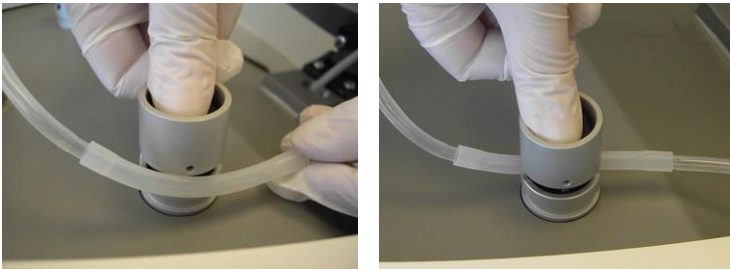

Figure 3-64. Inserting the Extraction Tube's Thick Inset into the Left Electrovalve's Slot
20. Push (and hold) the electrovalve while inserting the extraction tube's thick inset into the electrovalve's slot, as shown in Figure 3-64.